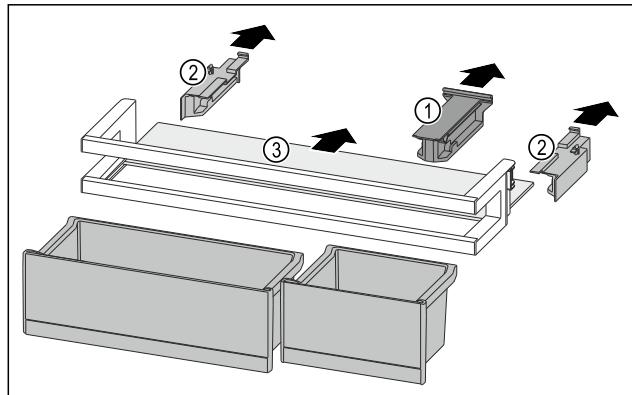

Fig. 143
- Pull off the holding part Fig. 143 (1).
- Pull off the side parts Fig. 143 (2).
- Remove the shelf Fig. 143 (3).